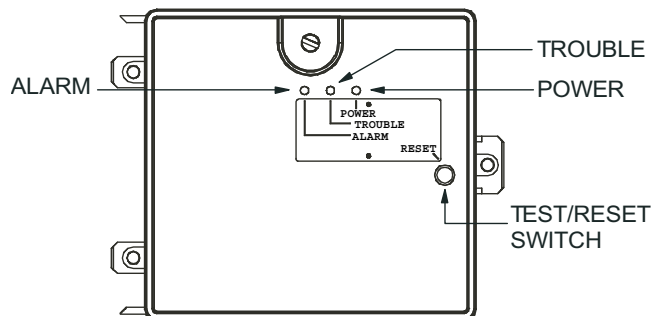

Fig. 40 — Controller Assembly
- The contacts on the controller's supervisory relay switch positions. (See Fig. 40.)